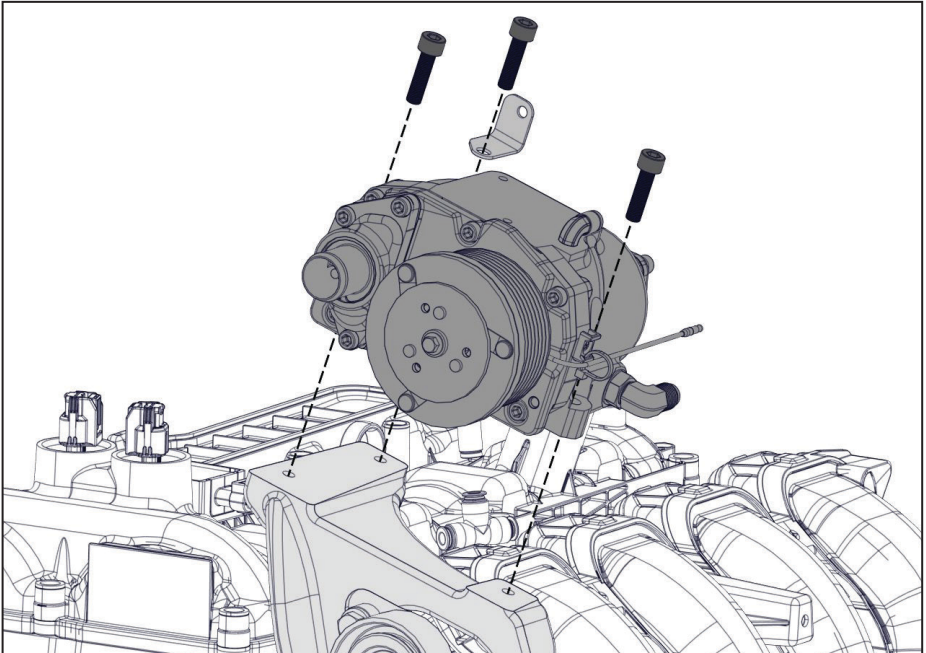

Figure 12 — Mount compressor
- Using the (x3) supplied M8 fasteners, mount the compressor and pressure switch bracket onto the main bracket and torque to specification (Figure 12).